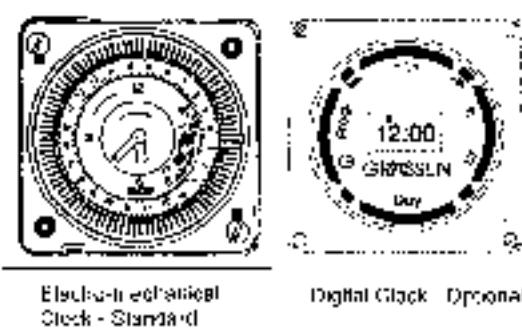

Figure 1.6 Front Panel Mounted Clock Options for SysteMate III
- j) Electro-mechanical clock (Figure 1.6) to control the space heating (in conjunction with a room thermostat if fitted).